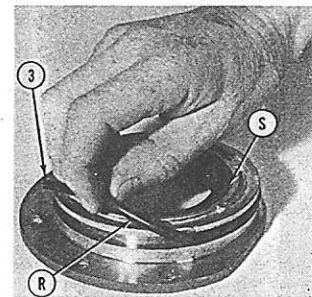
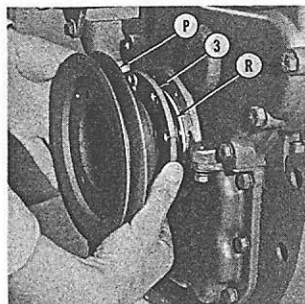

Fig. 111—Oil leakage around outside of retainer (3) is prevented by "O" ring seal (R). Lip seal (S) should be installed from front, with sealing lip to rear.
Fig. 112—Exploded view of timing gear cover and associated parts used on three cylinder models. Spring (1) controls camshaft end play.
Remove and discard the "O" ring (R—Fig. 111). Press the seal (S) into retainer from the front with seal lip to the rear, until front of seal is 3/32-inch from front face of bore. Install a new "O" ring (R), lubricate the "O" ring and use the crankshaft pulley (P—Fig. 112) as a pilot when reinstalling the seal retainer.
Fig. 112—Use the crankshaft pulley (P) as a pilot when installing front seal retainer (3). Lower timing gear cover should be loosened to prevent damage to "O" ring (R).